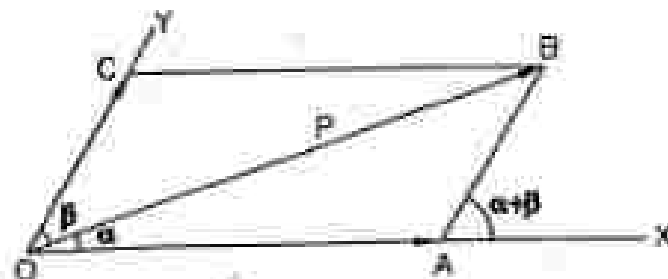

Fig 1.14
- Let P be the given force represented in magnitude and direction by OB as shown in Fig 1.14. Also let OX and OY be two given directions along which the components of P are to be found out.